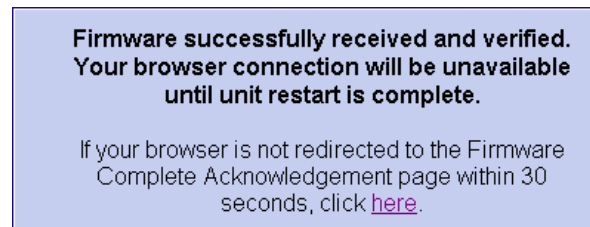

Figure 4-33 Firmware Received Message Box
6. When the firmware version is downloaded to the switch and verified, the following message box displays (Figure 4-33).